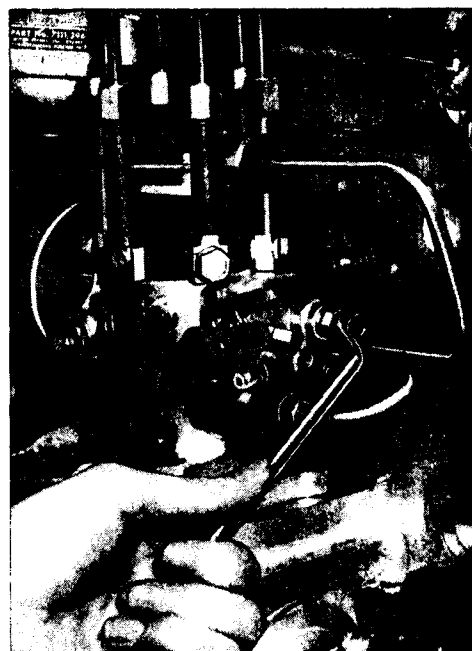

Fig. M.14.
1. Slacken the air vent valve on the side of the governor housing (hydraulic governor), Fig. M.14, or on the top of the governor control cover (mechanical governor) Fig. M.15.